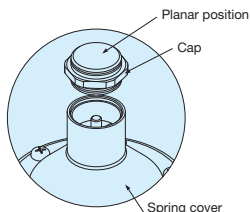

Fig. 2
4. Take the internal pressure, and be sure to return the cap to the original position (making planar position upward) after water pressure inspection. (Fig. 2)